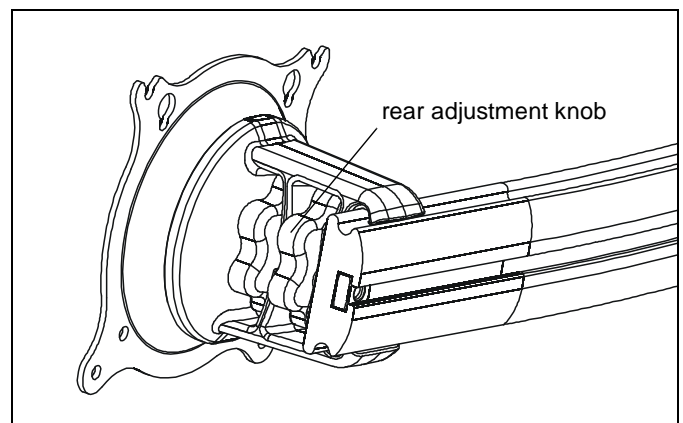

Figure 11
1. Loosen Centris bracket rear adjustment knob. (See Figure 11)